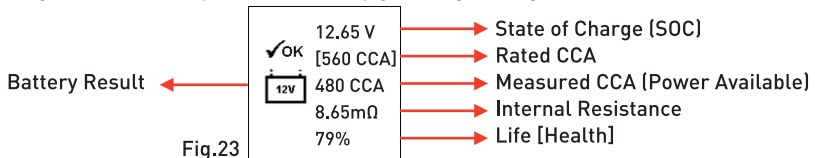

Fig.23
13. In less than 8 seconds, the results of the test will be displayed on the LCD screen (Fig.23) if the battery condition is very good (e.g. having more than 75% Life).